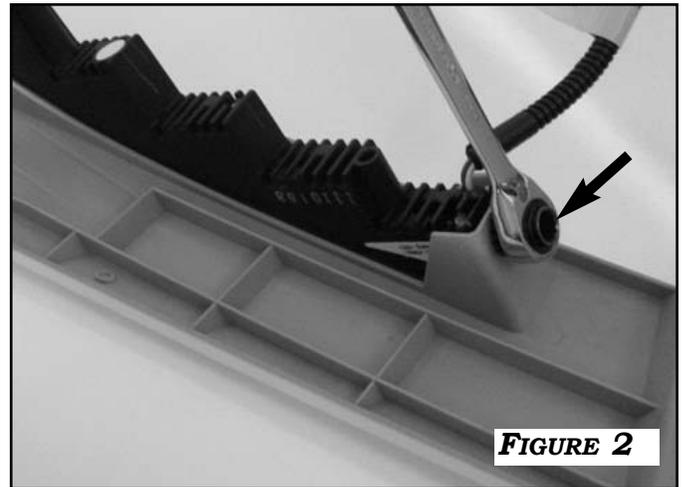

FIGURE 2
2. USE A 10MM WRENCH TO ASSEMBLE THE DRL LED LIGHTS TO THE PANELS WITH THE HARDWARE PROVIDED IN KIT. **FIGURE 2**